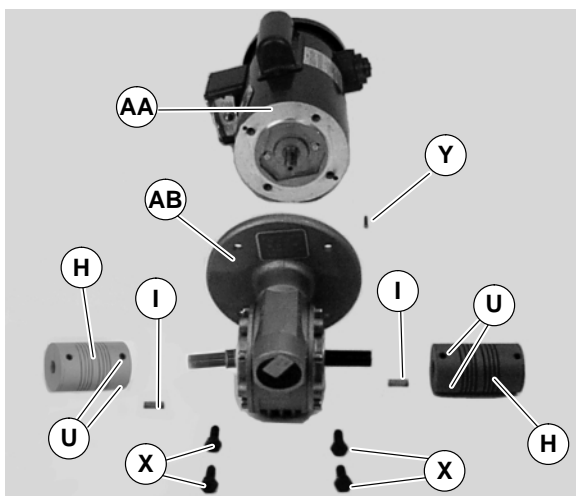

Figure 37
7. Remove four screws (X of Figure 37). Detach motor (AA) from gear reducer (AB). Retain shaft key (Y).
12. With key (Y of Figure 37) in keyway, slide motor (AA) and gear reducer (AB) together. Install screws (X) and tighten.
13. Attach couplings (H of Figure 37) to gear reducer shaft. Tighten set screws (U) to 32 in-lb (4.7 Nm).